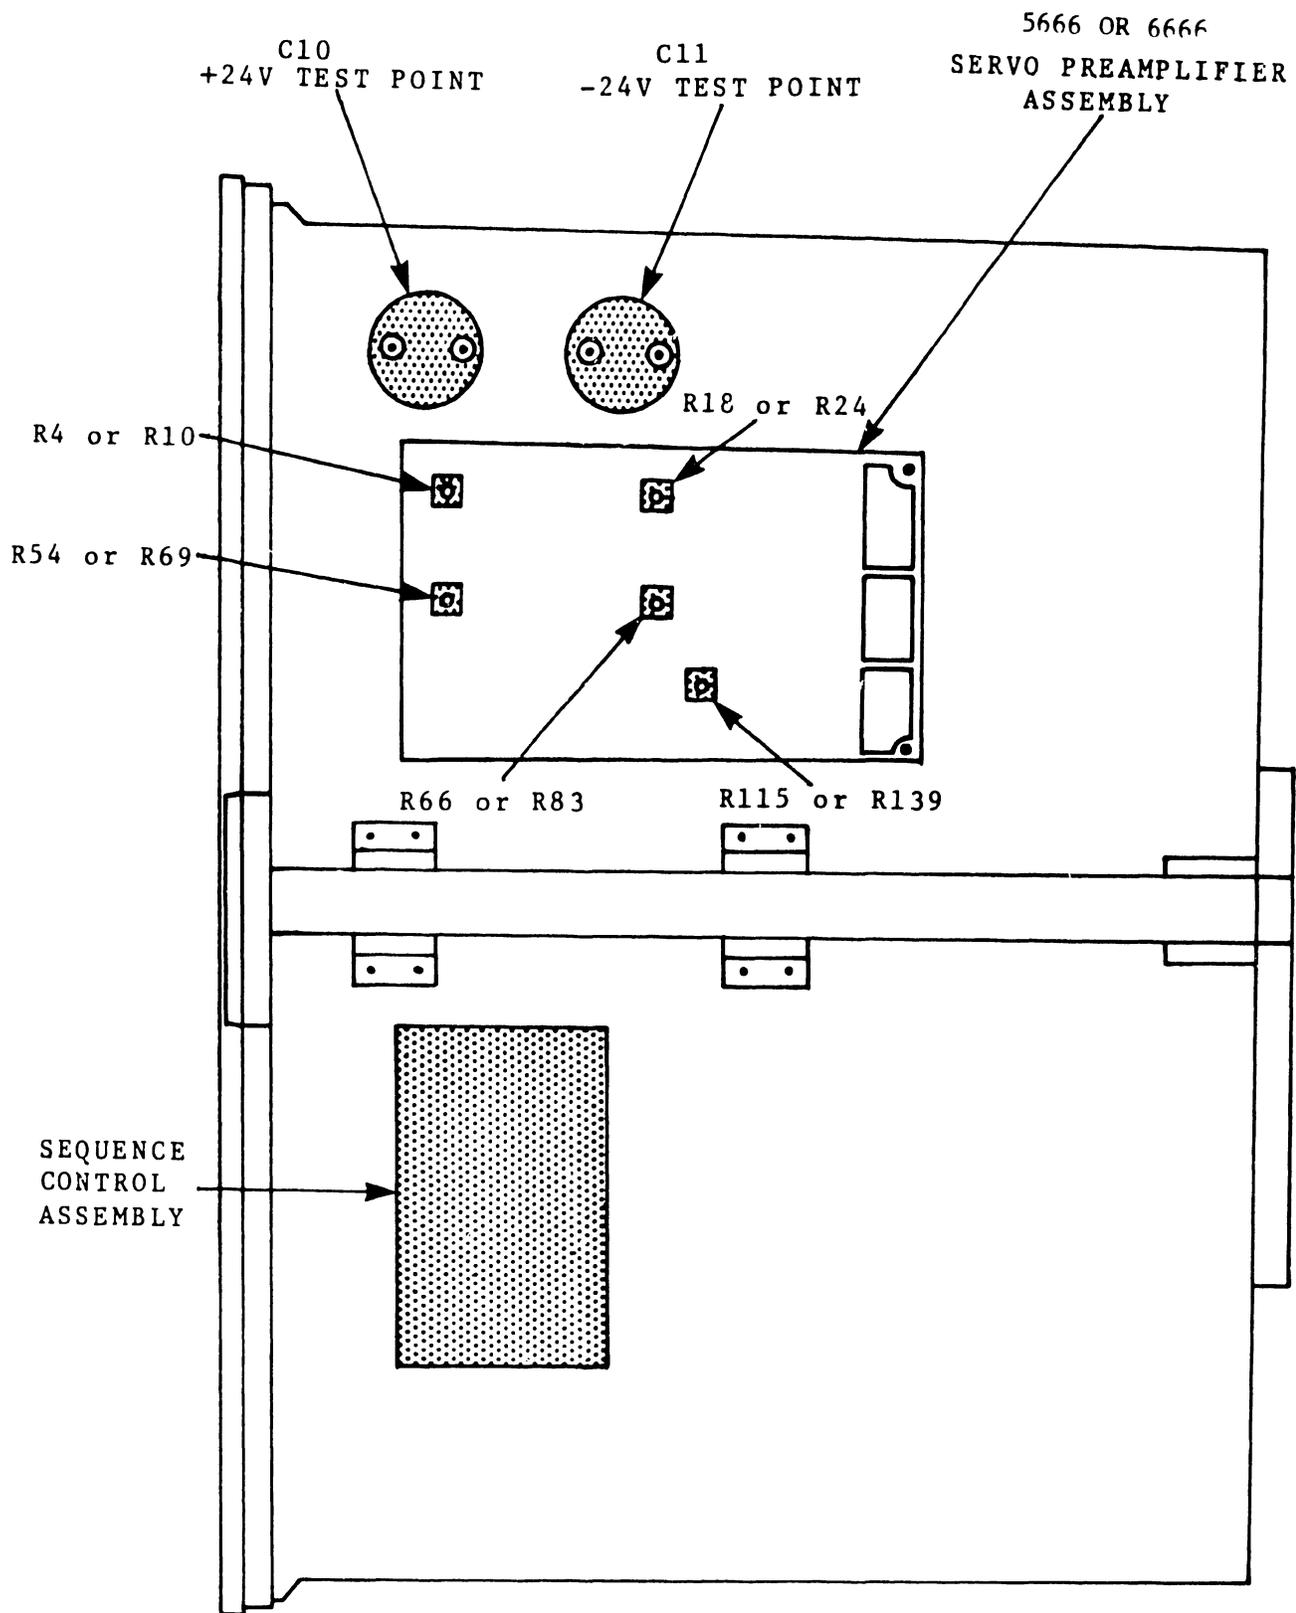
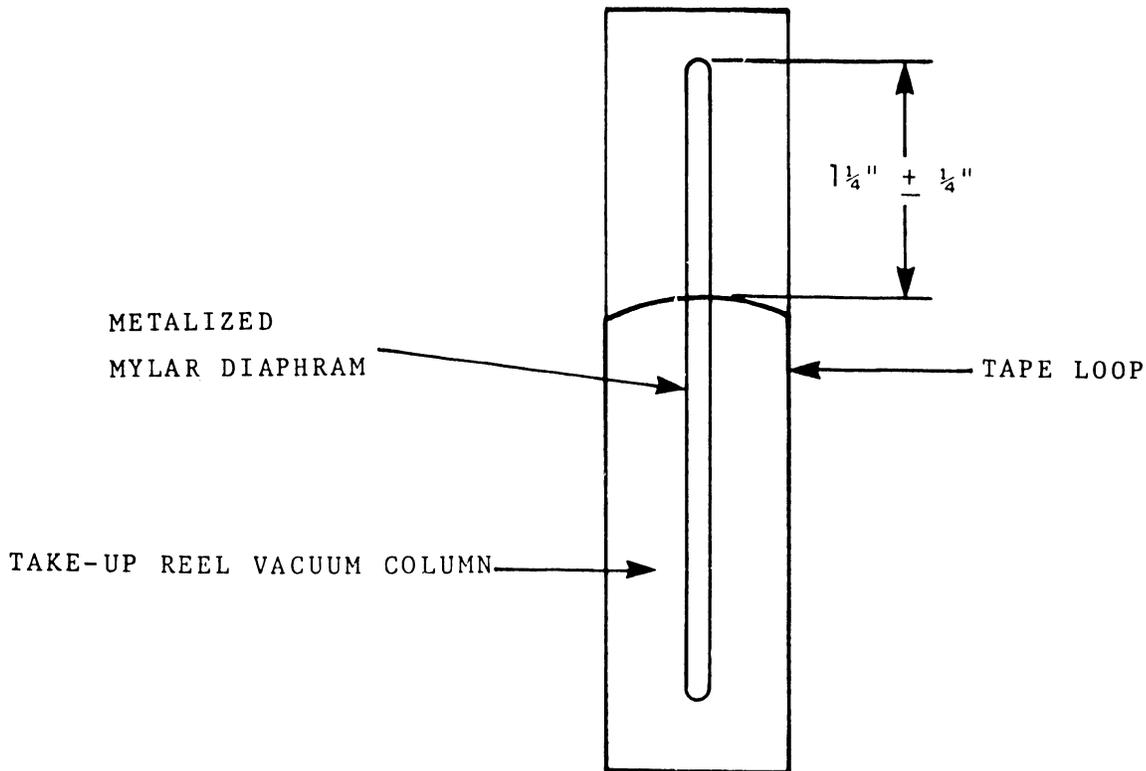
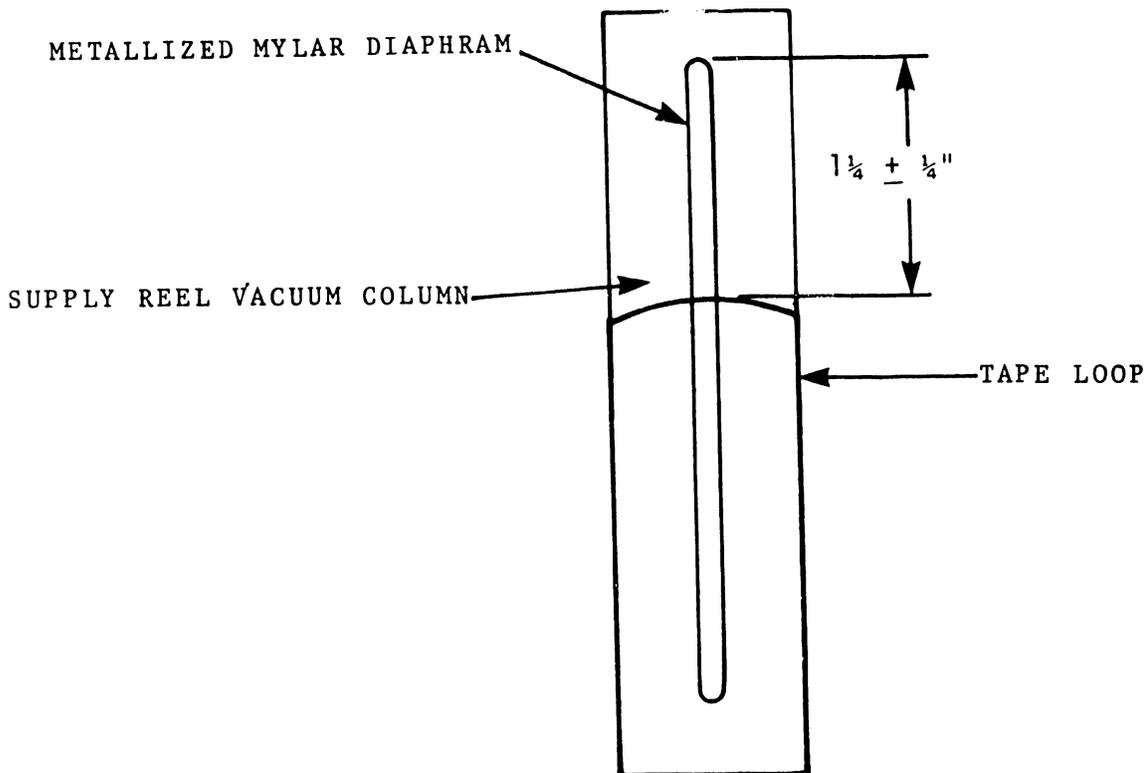

FIGURE 4-87 RIGHT SIDE VIEW OF TAPE CHASSIS
FIGURE 4-91 TAKE-UP REEL VACUUM COLUMN
FIGURE 4-92 SUPPLY REEL VACUUM COLUMN
+24 (+3)	For test point use C10 on the right side of the tape drive chassis (Figure 4-87).
-24 (-3)	For test point use C11 on right side of tape drive chassis (Figure 4-87).
+10V (+.5V, -.2V)	Use test point "A" on the Sensor Amplifier/Drive card in the logic chassis (Figure 4-87).
-10V (+ 8)	Use test point "B" on the Sensor Amplifier/Drive card in the logic chassis (Figure 4-87).
+5V (+ 0.25)	Use test point "C" on the Sequencer Amplifier/Driver card in the logic chassis (Figure 4-87)
- b. Adjust R10 on the servo preamp card (Figure 4-87) until tape loop is centered in the supply vacuum column.
- c. Using R69 on the servo preamp card (Figure 4-87) repeat step a and b for the takeup reel servo adjustment.
If the tape drive servo preamp card is type 5666 rather than 6666 use potentiometer R4 instead of R10, and R24 instead of R69. These pots are in the same physical locations on the respective cards. (See Figure 4-87)
- (1) Tape must be loaded and be advanced to the load point.
- (2) Place tape drive in the FORWARD RUN mode.
- (3) Adjust potentiometer R83 (See Figure 4-87) so that the tape loop rides at $1\frac{1}{4}'' \pm \frac{1}{4}''$ from the top of metallized mylar diaphragm in the take-up reel vacuum column (See Figure 4-91).
(4) Depress STOP on the test panel; then place tape drive in the REVERSE Mode.
(5) Adjust potentiometer R24 (See Figure 4-87) so that the tape loop rides at $1\frac{1}{4}'' \pm \frac{1}{4}''$ from the top of the metallized mylar diaphragm in the supply reel vacuum column (See Figure 4-92).
3. Advance the tape to load point and adjust potentiometer R139 (Figure 4-87) to bring measured voltage to zero.